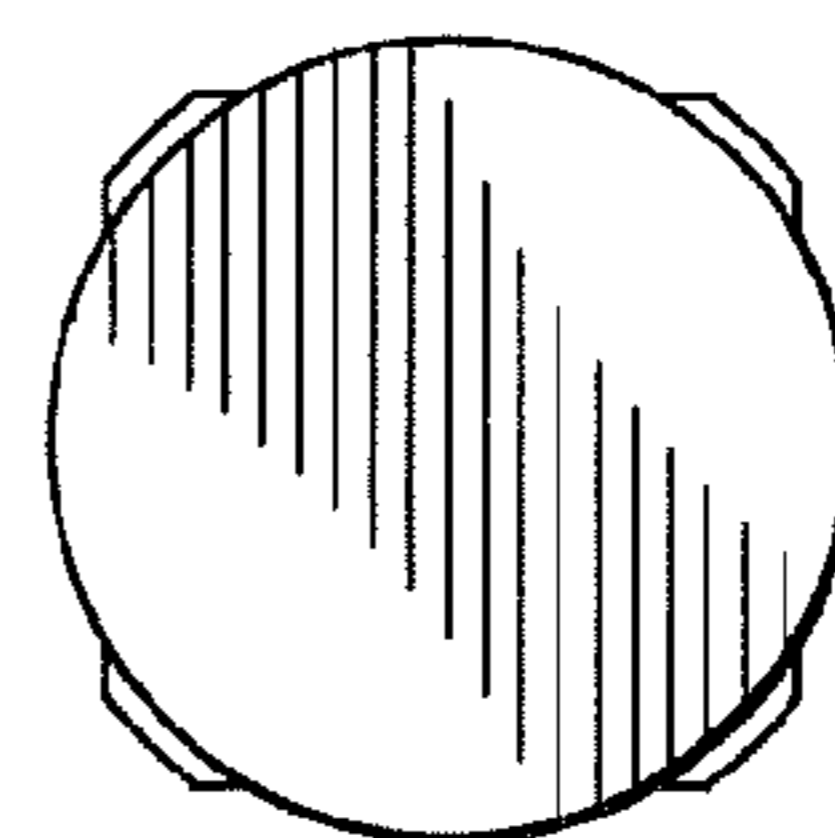

Fig. 12
- FIG. 12 is a bottom plan view of the stud having a cross knurled wedge;